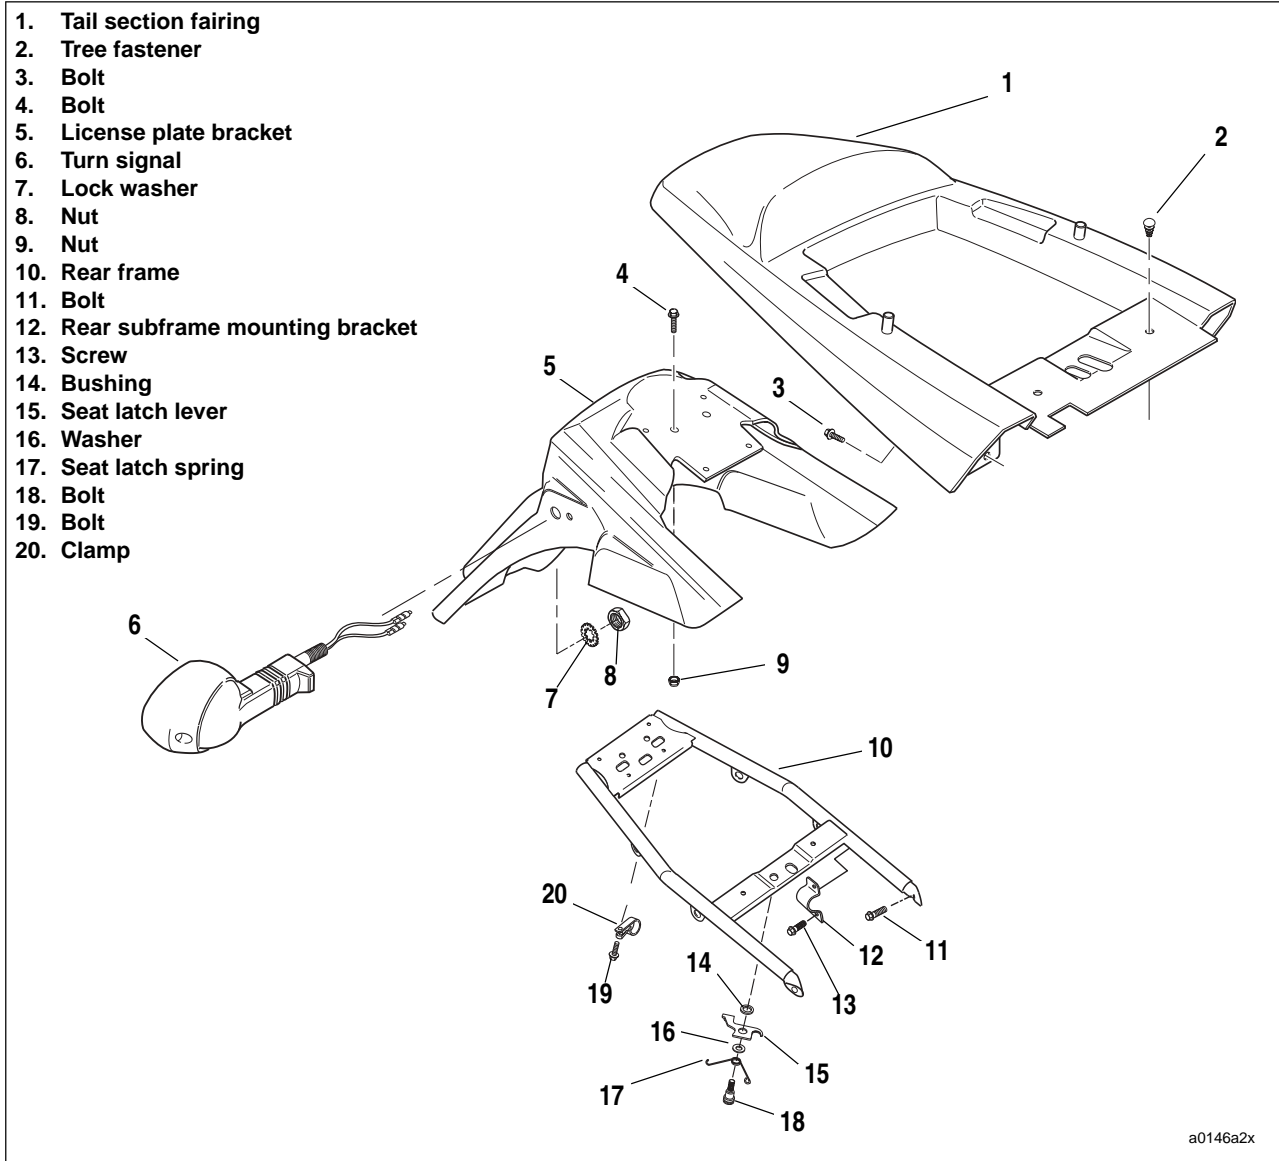

Figure 2-110. Tail Section
2. See Figure 2-110. Remove fasteners and clamp (3, 19 and 20).
3. Remove tree fasteners (2).
4. Remove tail section (1).
3. See Figure 2-110. Remove fasteners (13) and bracket (12).
4. Remove fasteners (11).
5. Slide rear frame assembly (10) out.